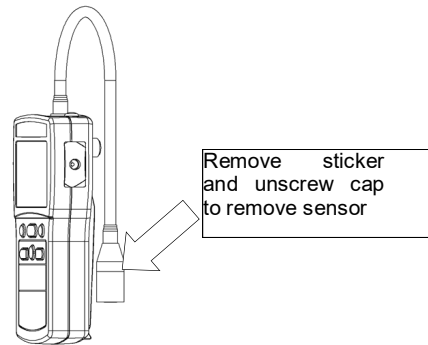

Fig. 4: Sensor change
- 1 Remove sensor sticker from protective cover at the end of the wand (see figure 4)